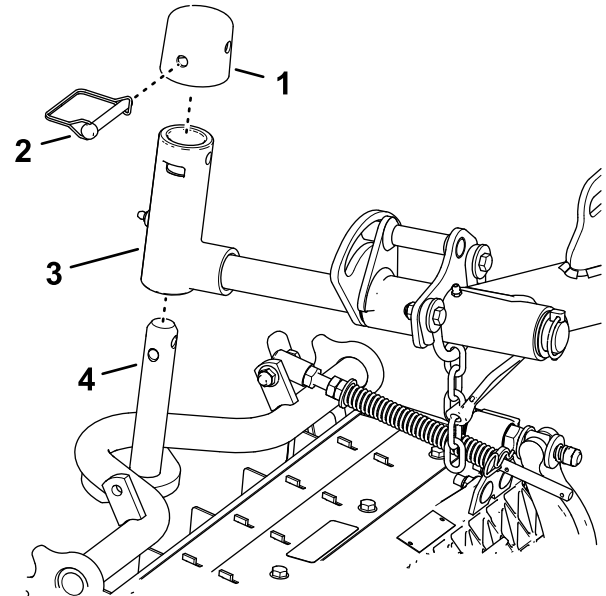

Figure 24
1. Slide a cutting unit under the lift arm (Figure 24).